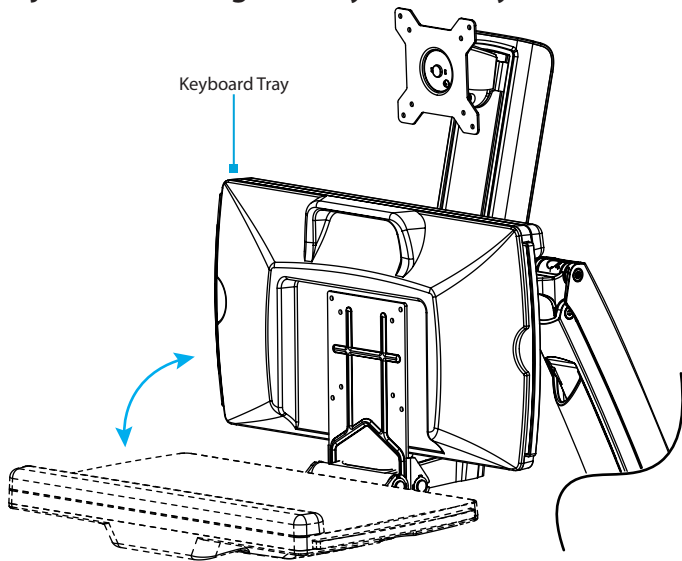

Figure 16
- Pull up or push down on the **Keyboard Tray** to adjust the angle between 0° to 90°. (Figure 16)